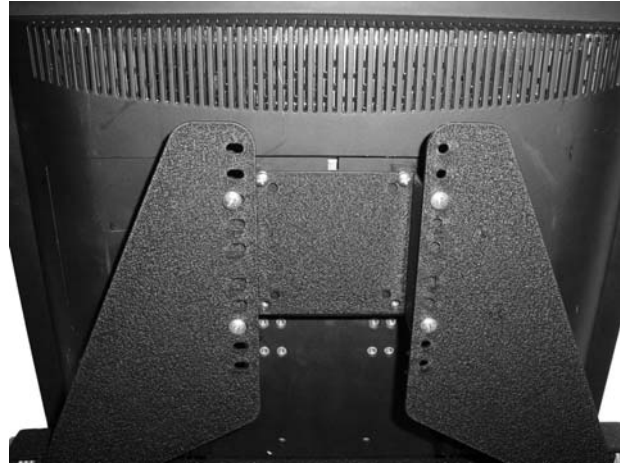

Figure 5. Install Monitor to Stand
4. At the desired height, secure your monitor to the stand using four provided 10-24 X 3/8" Phillips head screws (see Figure 5).